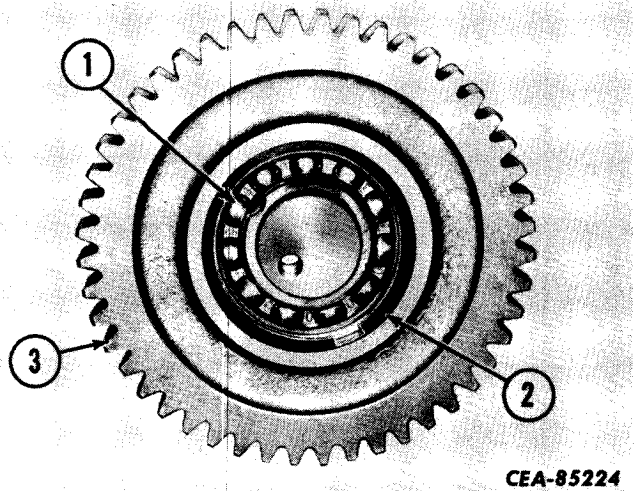

Figure 3-29
Install the snap ring (2, Fig. 3-29) in the groove in the driven gear (3). Bearing assembly (1) must be bottomed on gear shoulder to allow proper snap ring installation.